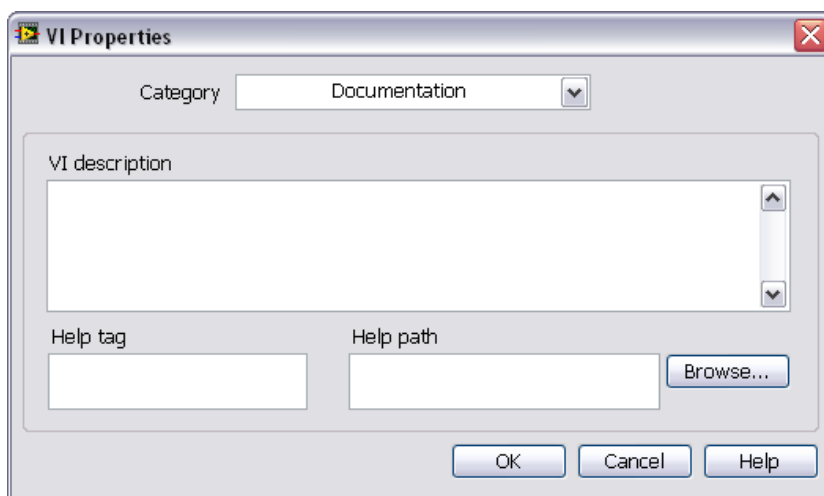

Figure 5-1. VI Properties Dialog Box
2. Select **Documentation** from the **Category** pull-down menu as shown in Figure 5-1.